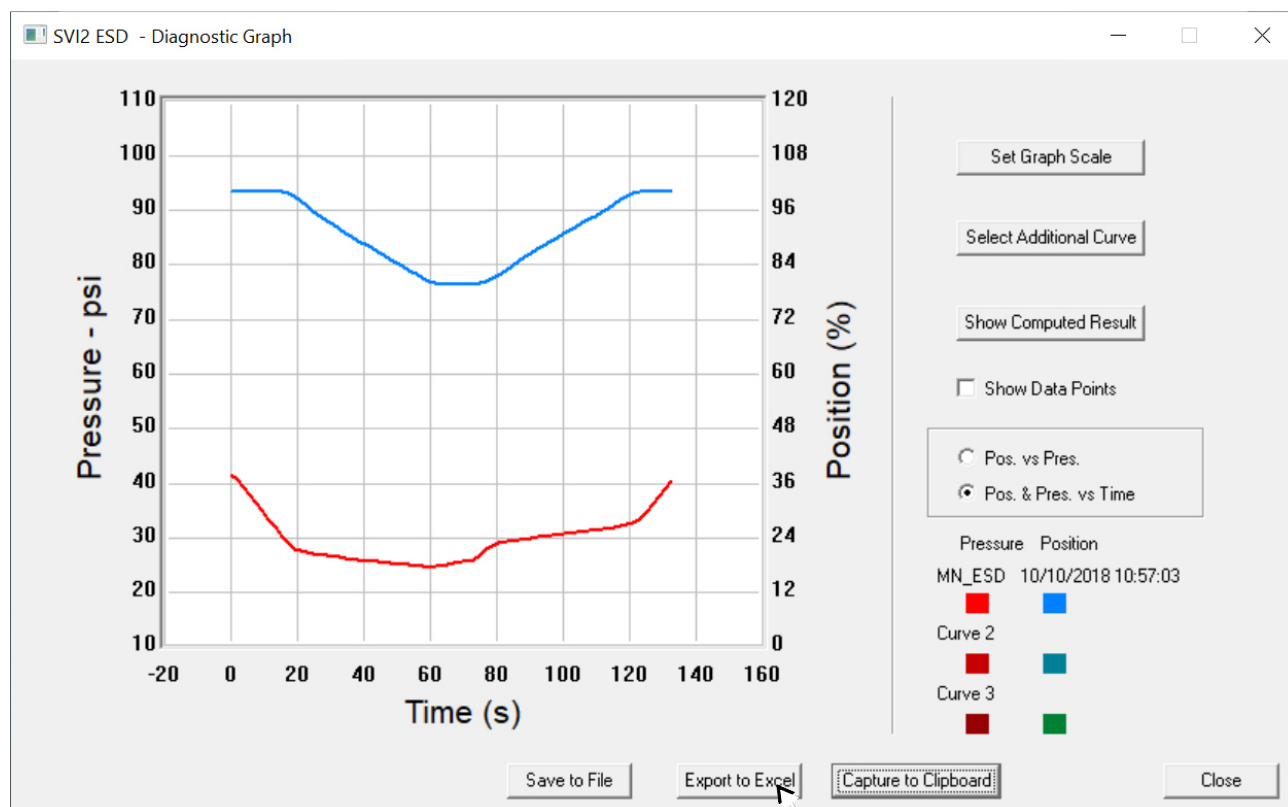

Figure 276 - Selecting Export to Excel
- **Export to Excel** (*Figure 276*).